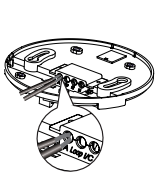

Figure 4A
2. Remove a 'knock out' / 'cable access' on one side of the alarm base. There is one on each side of the base. (refer to Figures 4A)
3. Secure the alarm base to the surface with the fixings provided. (refer to Figures 4A and 4B).